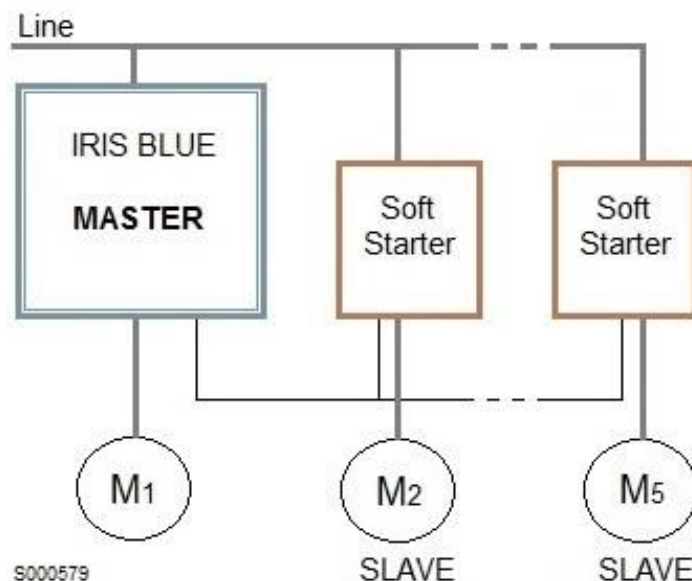

Figure 72: Block diagram of MMC operating mode – Direct On Line – Controlled start through a Soft Starter
- Controlled start through a Soft Starter. See Figure 72.